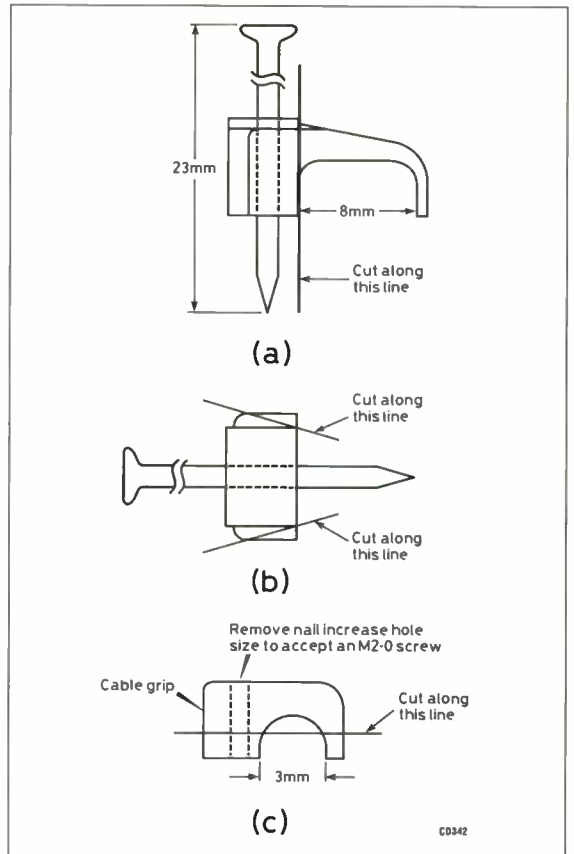

Fig 8.4. Cutting the probe end and cable grip
4. Next prepare the actual probe. In the prototype this was made by cutting a plastic cable clip to the shape shown in Fig 8.4. Use a medium-size clip in which the fixing nail is about 20 to 25mm long. The plastic will cut quite easily using a sharp modelling knife. Any other method of supporting a short metal probe could be put to use.
18. To prevent strain on the components during use, the lead should be held by some form of cable clamp. The prototype used a small electrical cable clip which was trimmed as shown in Fig 8.4. The hole will need to be enlarged to take a M2.0 or 8BA screw. When bolted up the cable should be held firmly.